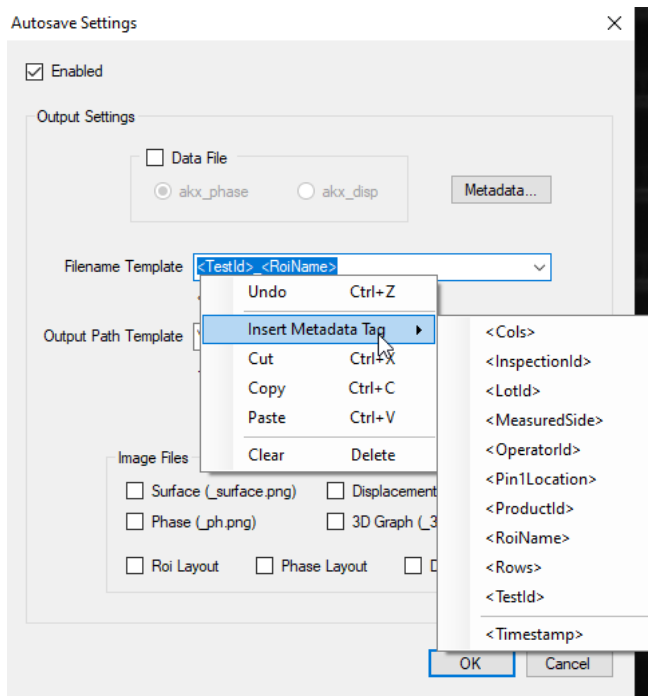
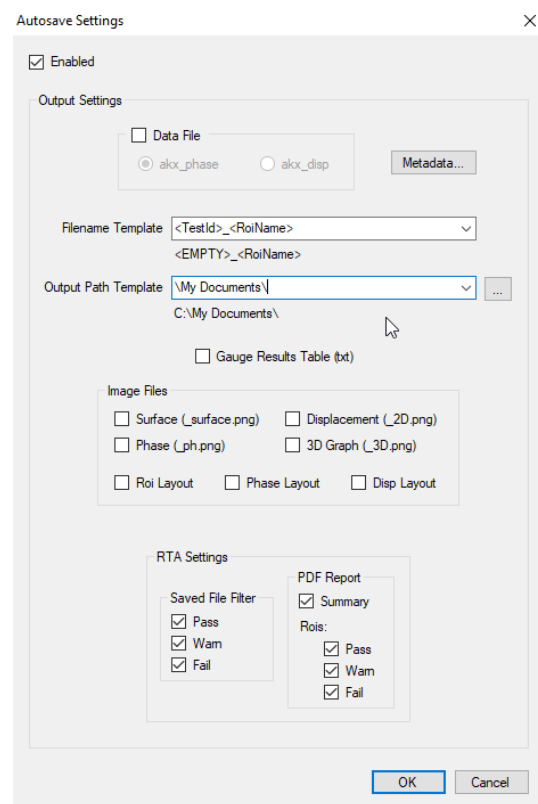

Figure 2.30 Autosave Settings
Figure 2.31 Autosave Settings w/ RTA enabled
- **Autosave Settings** – Allows the user to control autosave settings for phase and displacement measurements acquired in this program. Metadata settings can be used to populate filenames, as shown in **Figure 2.30**. See **Appendix A.1.1** for available Metadata fields. When RTA is enabled (**Figure 2.31**), files saved can be filtered by pass/warn/fail determination and the user can choose whether or not to save a summary PDF report with or without ROIs filtered by pass/warn/fail as well.